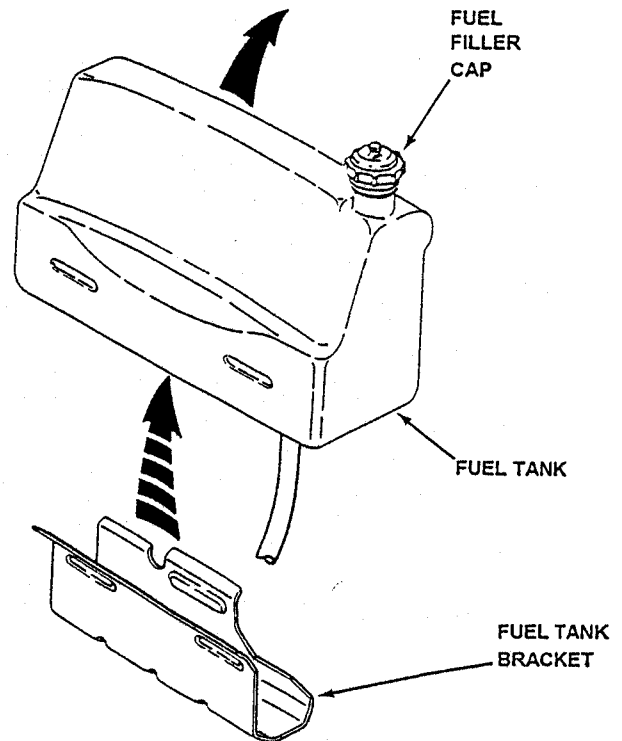

FIGURE 3.12
- 3.7.1. Working from the left side, pull the fuel tank straight up out of the tank bracket. See Figure 3.12.